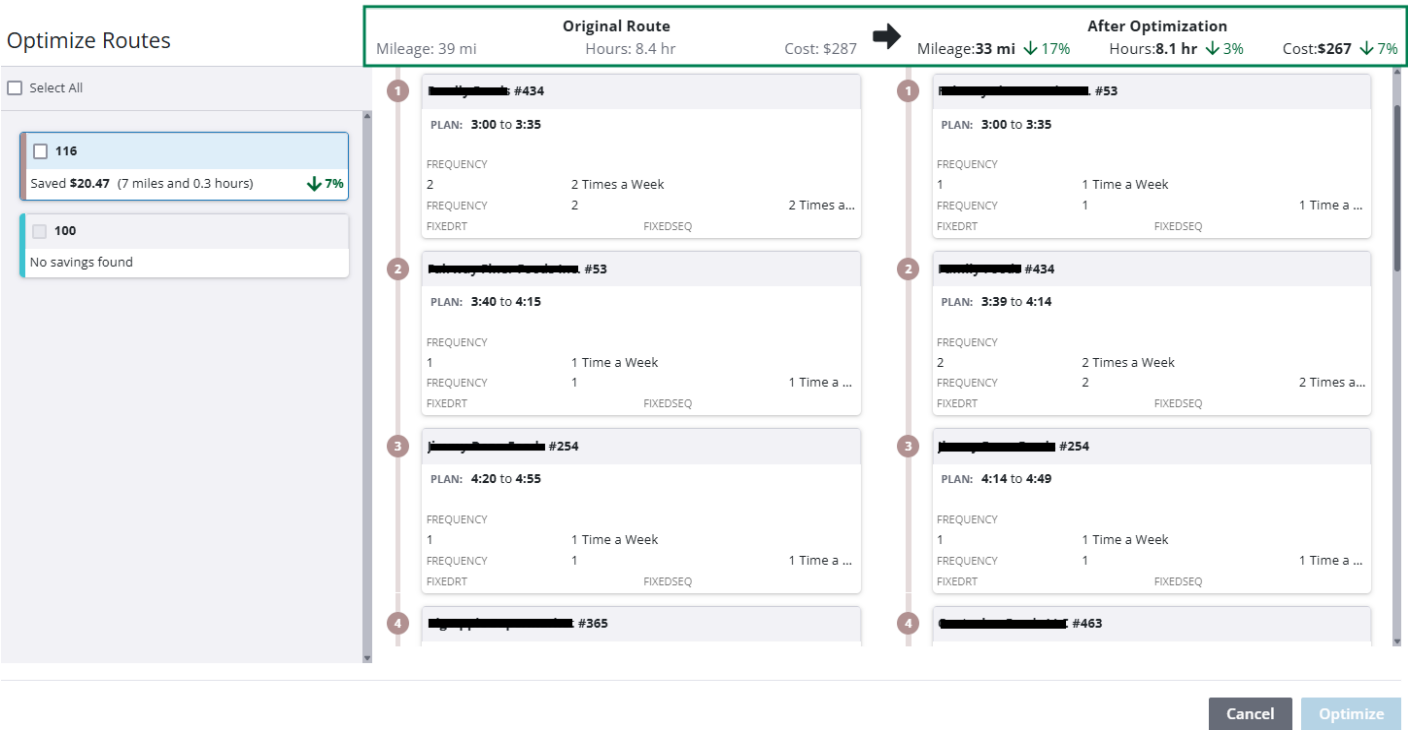

Figure 63 - Example of an Optimized Sequence preview and summary
- Preview the Routes' optimization options (See *Figure 63* below).